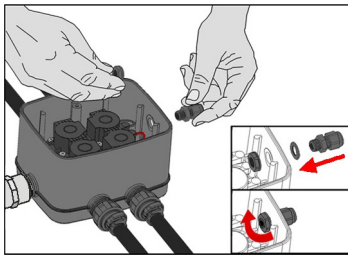

Fig 2
2. Assemble the cable gland (e) by removing the hexagonal nut (g) and pushing the cable gland (e) through the hole in the end of the eZyvalve™4 box (h), with the washer (f) on the outside of the box. Replace the hexagonal nut (g) on the inside of the box and tighten (Fig 2).